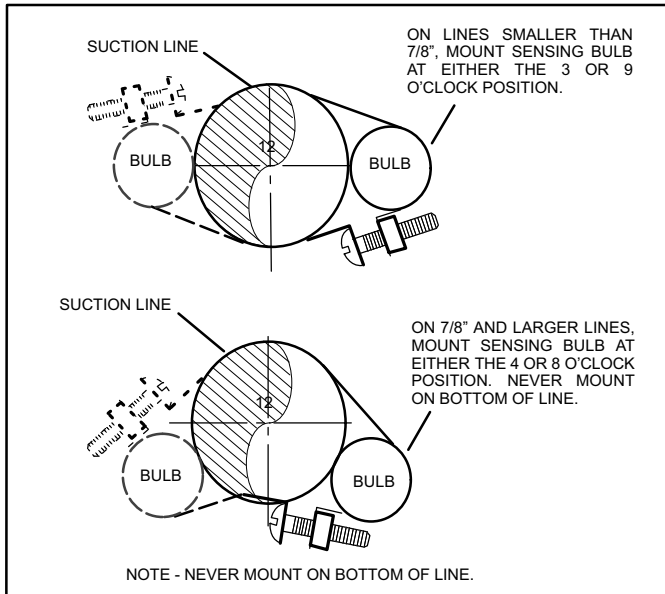

Figure 26. TXV Sensing Bulb Installation
6. Attach the suction line sensing bulb in the proper orientation as illustrated in Figure 26 using the clamp and screws provided.